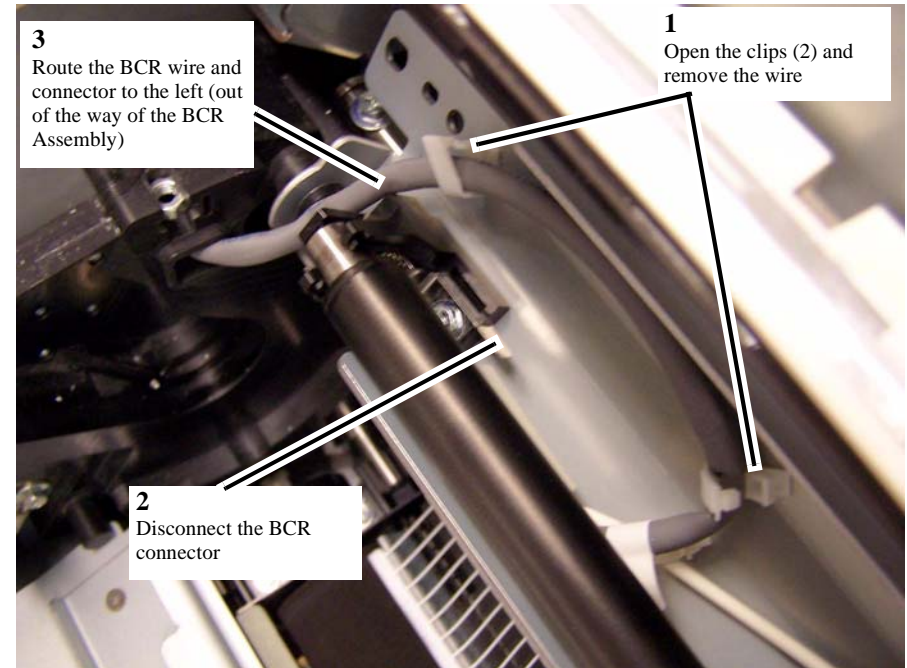

Figure 1 Disconnect and reroute the BCR power connector (left end of the assembly)
- a. Open the clips, disconnect the BCR connector, and route the wire with connector to the left, out of the way of the BCR Assembly (Figure 1).